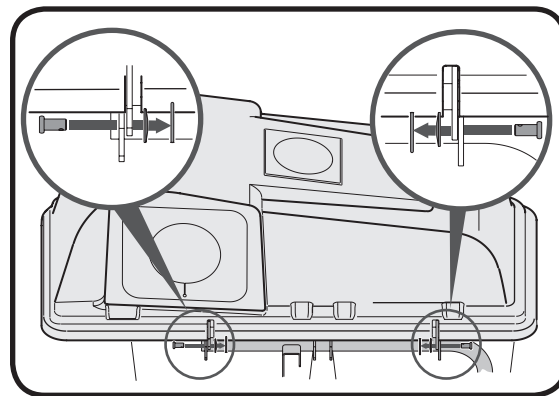

Figure 20
4. Insert the clevis pin through the hinge on the support tube assembly and then through the grass bag cover. See Figure 20.
5. Secure with belleville washer and hairpin clip with the crown side of the washer going against the hairpin clip. See inset images in Figure 20.
NOTE: Insert the clevis pins from the outside in as shown in the inset images of Figure 20.
Insert the clevis pins from the outside in as shown in the inset images of Figure 20.